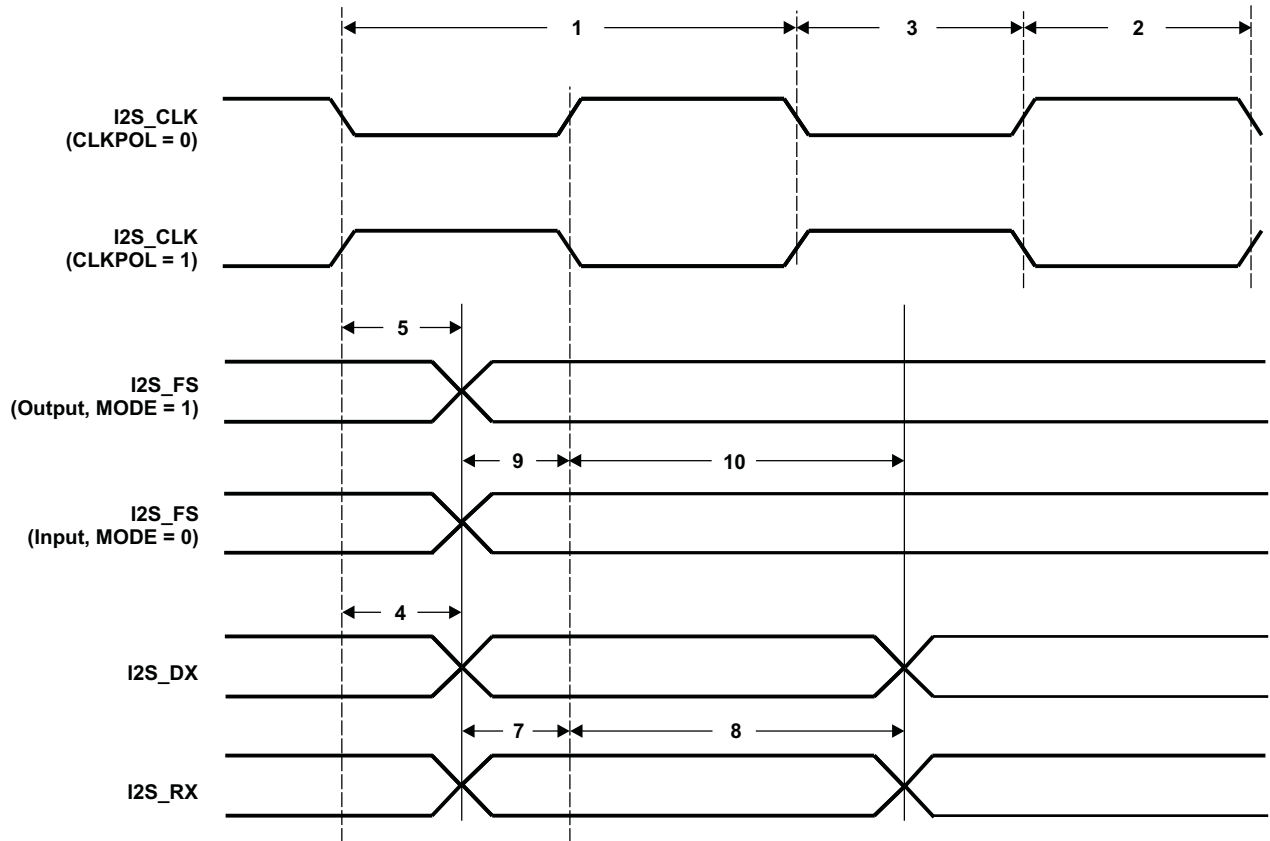

Figure 5-29. I2S Input and Output Timings
**Table 5-37. Timing Requirements for I2S [I/O = 3.3 V, 2.75 V, and 2.5 V](1) (see Figure 5-29)**
(1) P = SYSCLK period in ns. For example, when the CPU core is clocked at 100 MHz, use P = 10 ns.
(2) Use whichever value is greater.
(3) In Slave Mode, I2S\_FS is required to be latched on both edges of I2S input clock (I2S\_CLK).
**Table 5-38. Timing Requirements for I2S [I/O = 1.8 V](1) (see Figure 5-29)**
**[I/O = 3.3 V, 2.75 V, or 2.5 V] (see Figure 5-29)**
[I/O = 1.8 V] (see Figure 5-29)**